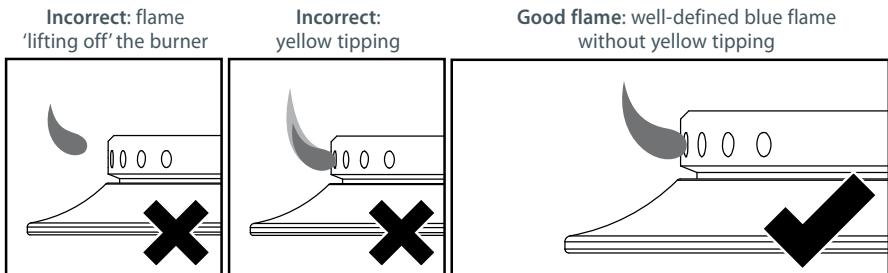
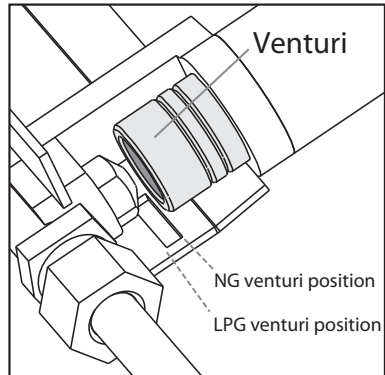

Fig.4 Incorrect and good flame patterns
Fig.6 Progressive venturi adjustment for the brass wok burner on CG905DWAC models
- 2 Check for a well-defined blue flame without any yellow tipping. See Fig.4.
- 15 Check that all burners have a good flame (Fig.4).
- The brass wok burner in the centre of CG905DWAC models may require progressive venturi adjustment (Fig. 6) until a good flame (Fig.4) is achieved: